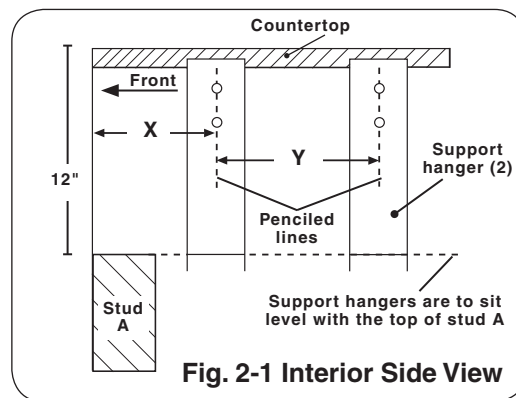

Fig. 2-1 Interior Side View
† See Fig. 2-1 for hanger setback detail
Step 1: On the inside of the grill opening, pencil in a vertical line X" from the front of the enclosure. Then, pencil in a second line, Y" (back) from the first line. **(See Table 1 and Fig. 2-1 for dimensions)**. Do the same on the opposite side as well.
Note: The distance between lines 1 and 2 must be Y" to allow for proper alignment and installation of the heat shield with the support hangers (see Fig. 2-1 & Fig. 2-2).
Step 2: Align the top of the support hangers level and flush with the opening 12" down from the countertop (i.e., the top of stud A). Line up hanger holes with your penciled lines (see Fig. 2-1 & Fig. 2-2) and screw into position.